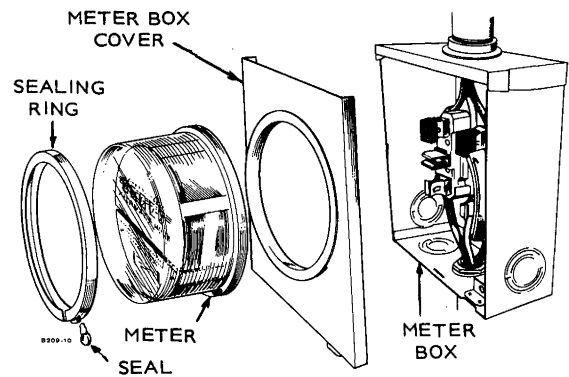

FIGURE 1
- 2** A. Remove the utility seal on the sealing ring or on meter box, whichever applies. Figures 1, 2, and 3 show typical meter boxes.
For meter boxes as shown in Figure 1, also install a sealing ring (Figure 6A).
- C. For meter boxes as shown in Figures 1 and 2, secure case mounting bracket to transfer switch with two cap screws and flat washers. Tighten all cap screws. See Figure 9B.